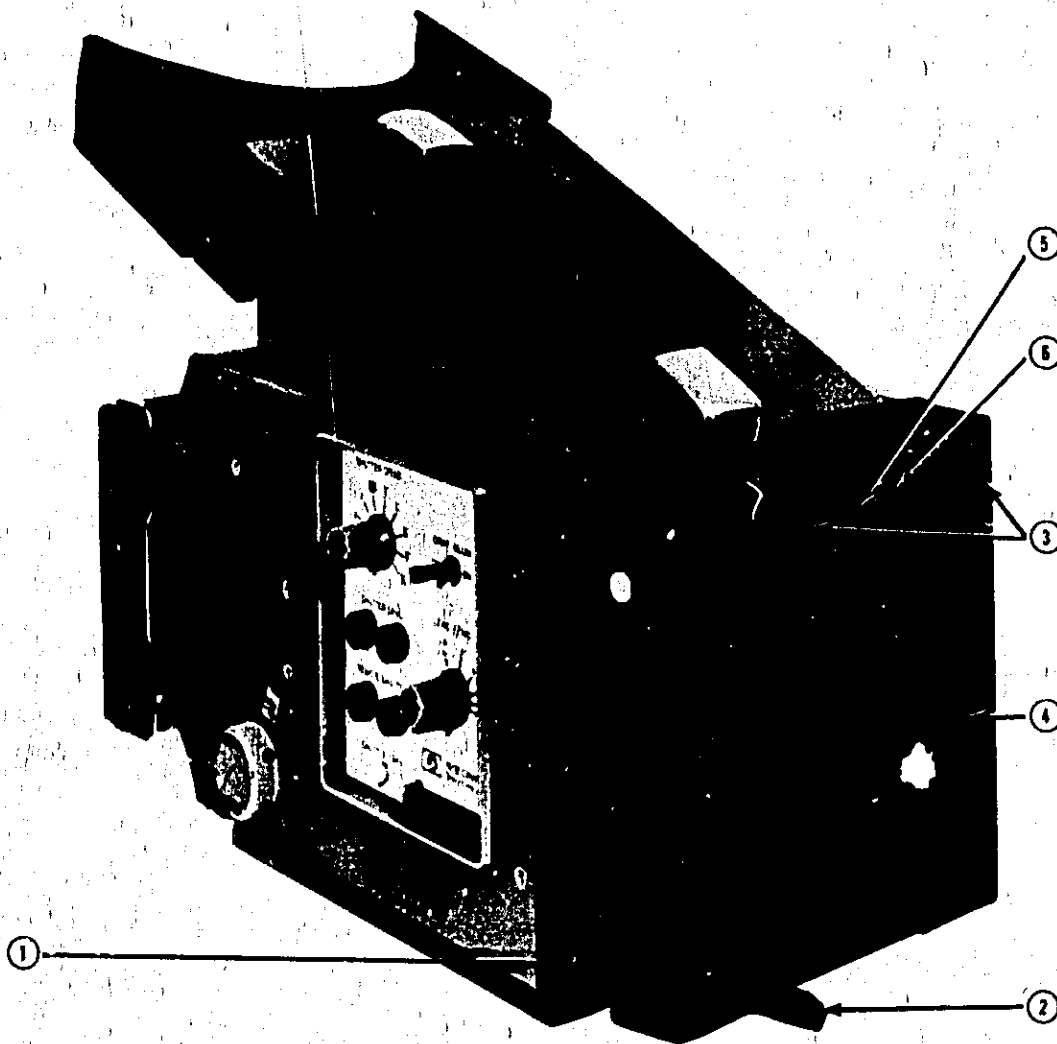

Figure 2-4. Option 002 Camera Front View
2-13. The 197B Option 002 Camera is designed to fit all oscilloscopes using the standard 14 cm (5-5/8 in.) diameter bezel, or an 11 × 14 cm (4-1/2 × 5-1/2 in.) rectangular bezel. The mounting frame is designed for 2 cm (3/4 in.) bezel depth, permitting direct attachment to some HP oscilloscopes. Refer to table 1-2 for compatibility information. To mount the camera on a round bezel, see figure 2-4 for identification of parts, then proceed as follows:
a. Adjust mounting lock knob ① so that locking lever ② is positioned approximately as shown in figure 2-4.
b. Mount camera on oscilloscope bezel. Press forward gently on camera until mounting retainers ③ hook over lip at rear of bezel.